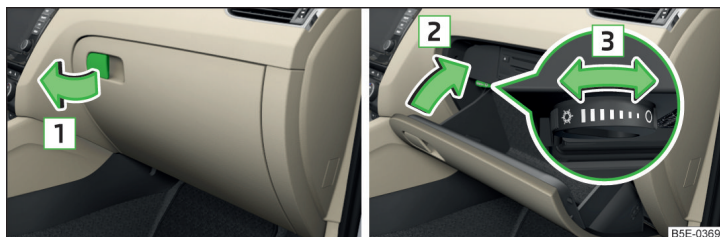

Fig. 90 Tray open / operating air supply
- Pull the cover handle in the direction of the arrow [1] » Fig. 90 and fold down the cover.
- Swing the flap up opposite to the arrow direction [2] » Fig. 90 until it clicks into place.
- The air supply is opened or closed with the rotary switch in the direction of arrow [3] to the stop » Fig. 90.